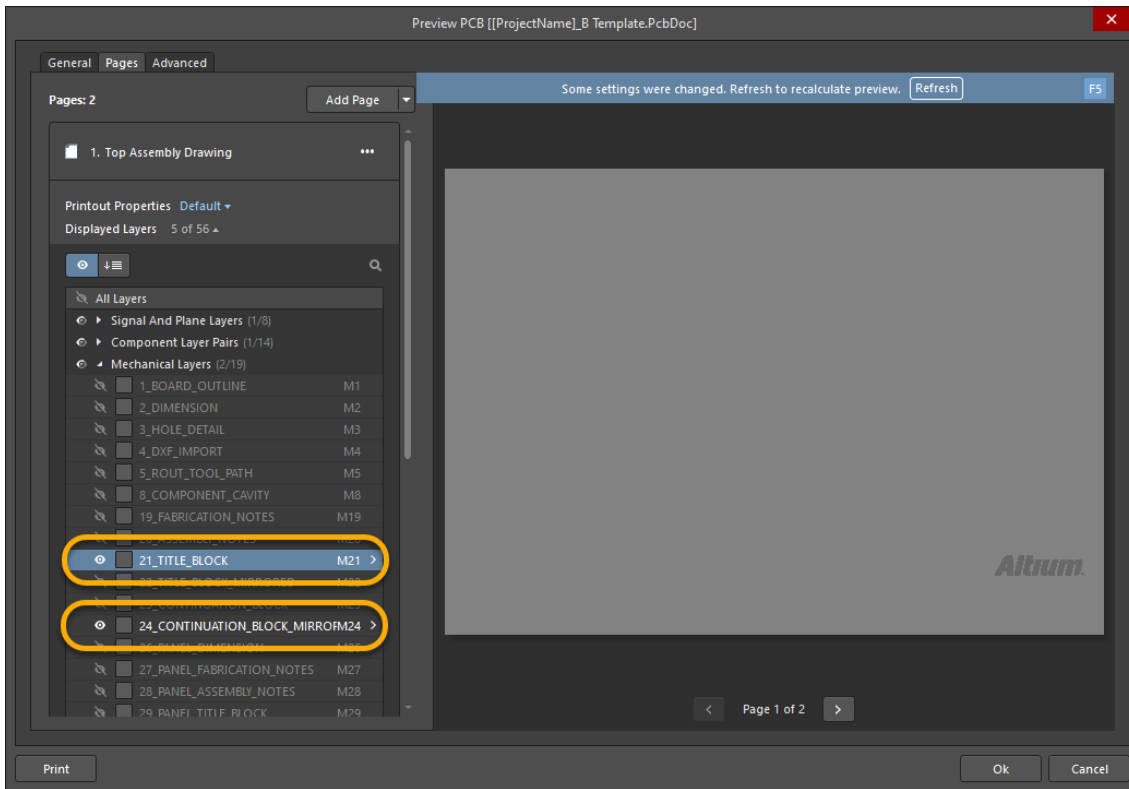

Figure 21. Final PCB Printout Properties
68. Using Figure 21 as a reference, add and remove layers for this printout by selecting from the list of available layers and then selecting refresh, lets select layers 21 and 24, and then select **Refresh** as shown in Figure 21, or F5 from your keyboard.